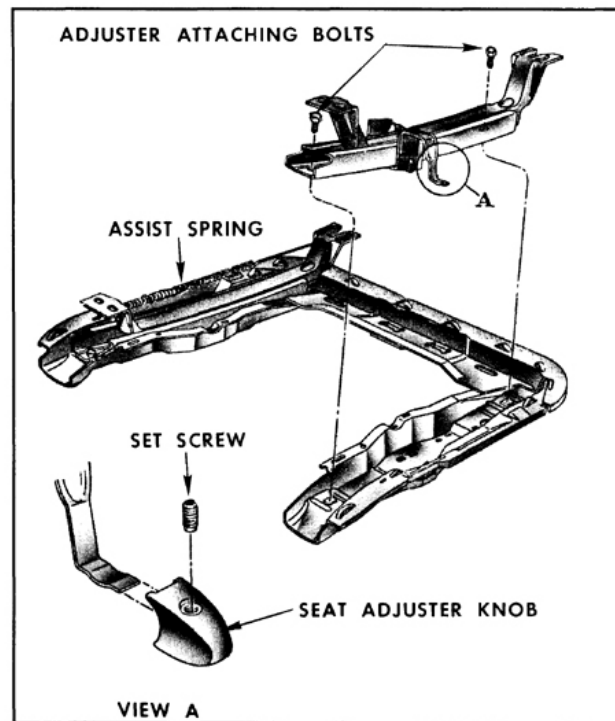

Fig. 16-389 Manual Bucket Seat Adjuster
2. If adjuster to be replaced is equipped with an assist spring, remove spring from adjuster. (Fig. 16-389)
5. Remove adjuster-to-seat bottom frame front and rear attaching bolts and remove adjuster from seat assembly. (Fig. 16-389)